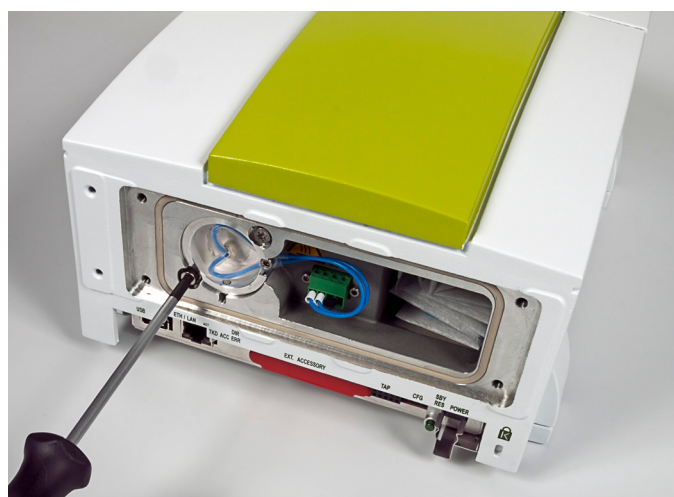

Figure 22. Replacing IR source Torx® screws
8. Secure the source by fastening the two Torx® screws (Figure 22) .